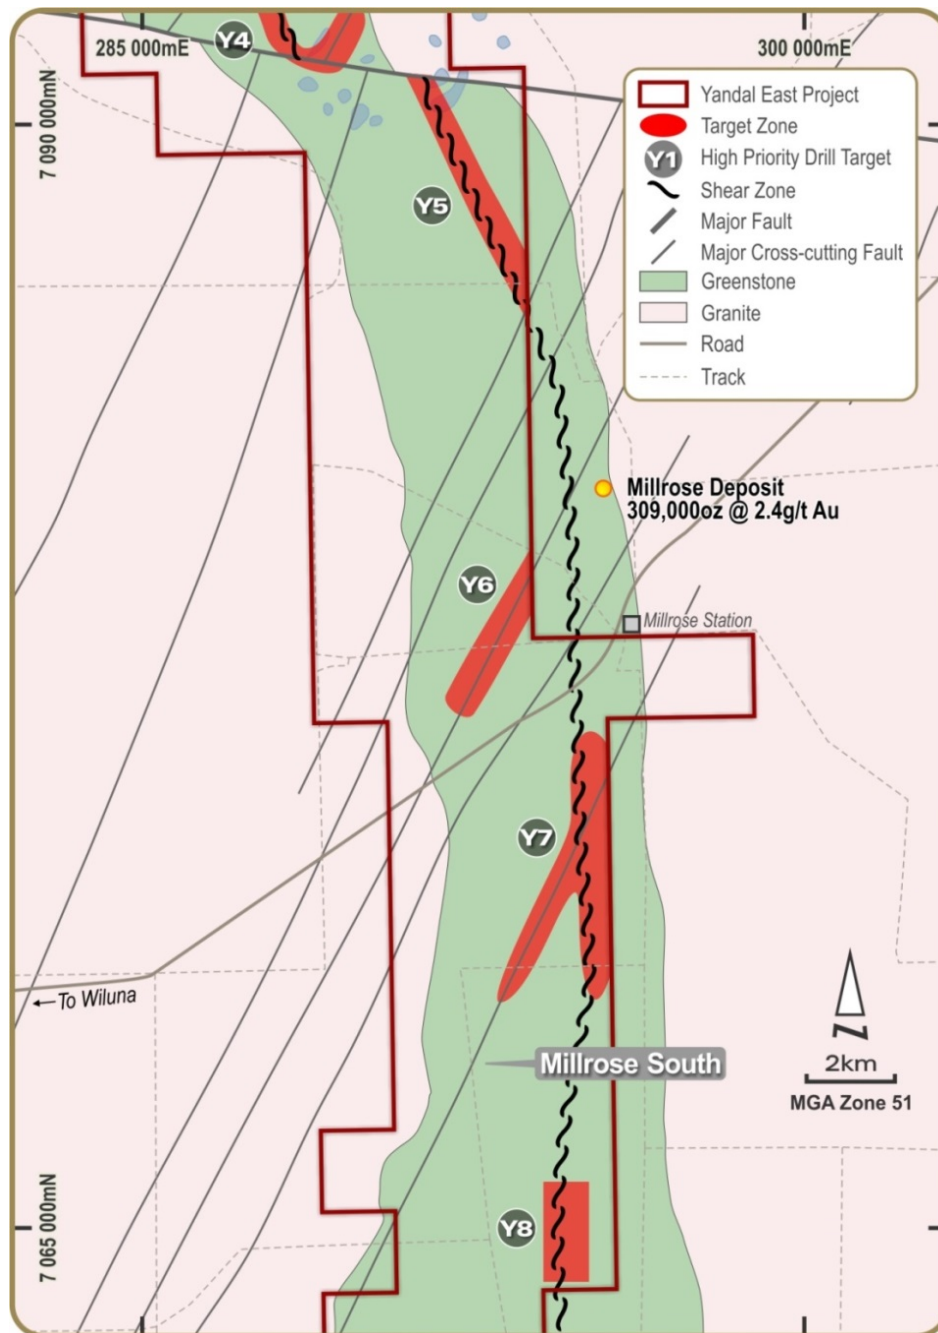

Figure 4: Geology and structural setting of the Southern Targets
The rig has recently moved to the Millrose Extension prospect (Target Y5, *Figure 4*) to drill 3 lines.
The Southern Targets are a continuation of the Central Targets and represent another 20km of the Celia Shear that is intersected by a high concentration of the high angled cross cutting structures. The Millrose Deposit held by Bowlane Nominees (WA) Limited contains 309,000 oz @ 2.4 g/t Au and sits adjacent to the intersection of a high angle, cross cutting fault and the Celia Shear. The past producing 300,000 oz Gourdis-Vause deposit, part of the Jundee operations, is interpreted to sit on the same cross cutting structure as the Millrose deposit. Three drill lines are planned to test Target Y6 (Figure 4) that sits on the same interpreted structure between the Millrose and Gourdis-Vause deposits.
Drilling has commenced at target Y5 (Figure 4) that sits on the Celia Shear immediately along strike from the Millrose deposit after a significant inflexion in the Celia Shear which may represent a structural complexity aiding in focusing gold bearing fluids.